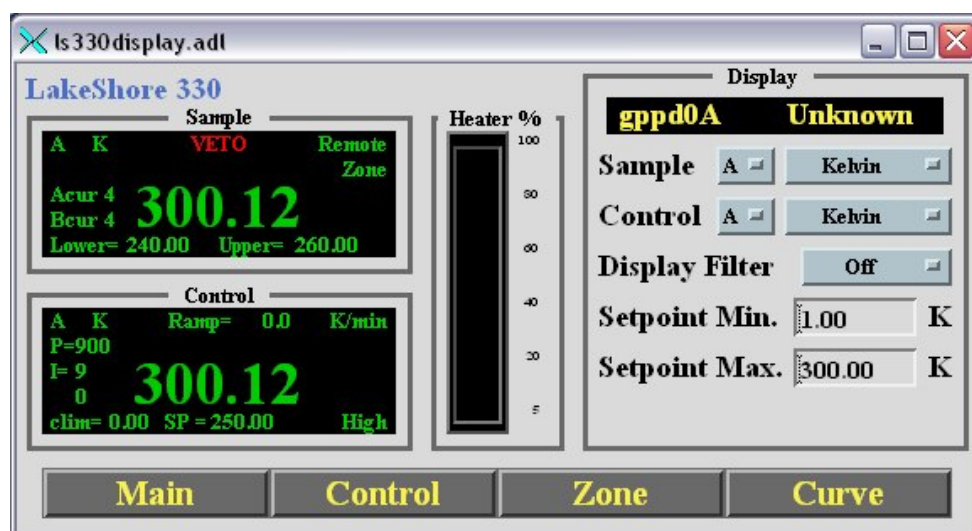

Figure 26: LS 330 "Display" Display
7. Locate the button labeled **Display**. Click this button to switch to the "display" interface window. See: Figure 26